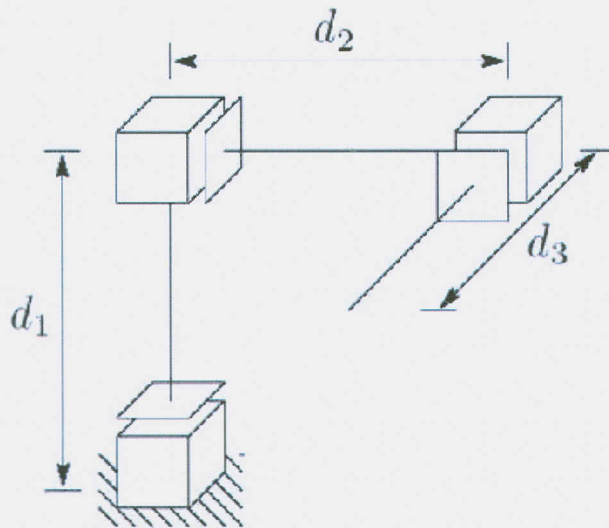

Figure 1: A robot of the PPP-type.
3. **Problem:** Consider a robot depicted in Fig. 1
- (c) Compute the manipulator Jacobian for representation of linear and angular velocity of the origin of the tool frame, which is located at the end of the last prismatic link of the robot (see Fig. 1). **(10)**